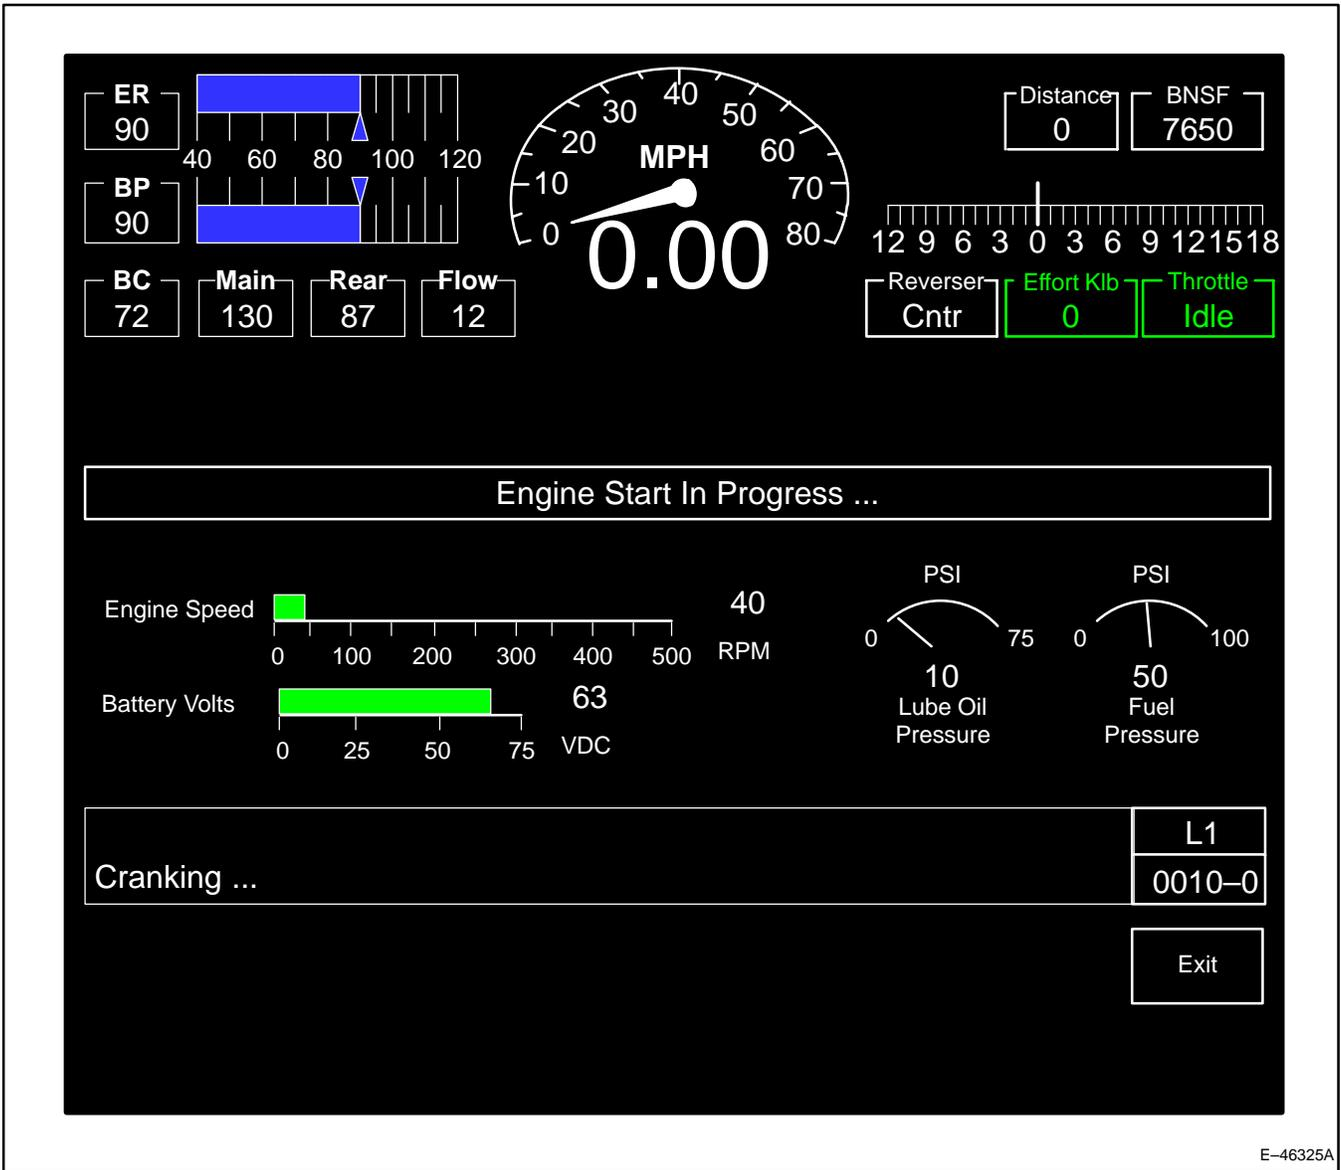

Figure 39. Engine Start In Progress Screen (0010-0).
6. Press the ENGINE START pushbutton and hold until ENGINE START IN PROGRESS screen (Figure 39) appears on the SDIS (only on screens showing the gages). This screen will disappear automatically once the engine is running.